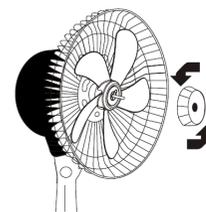

FIG 4
- In order to remove the dust from the protective grille use a vacuum cleaner or reverse assembly instructions (refer to Figs 4 – 6 on Page 3).